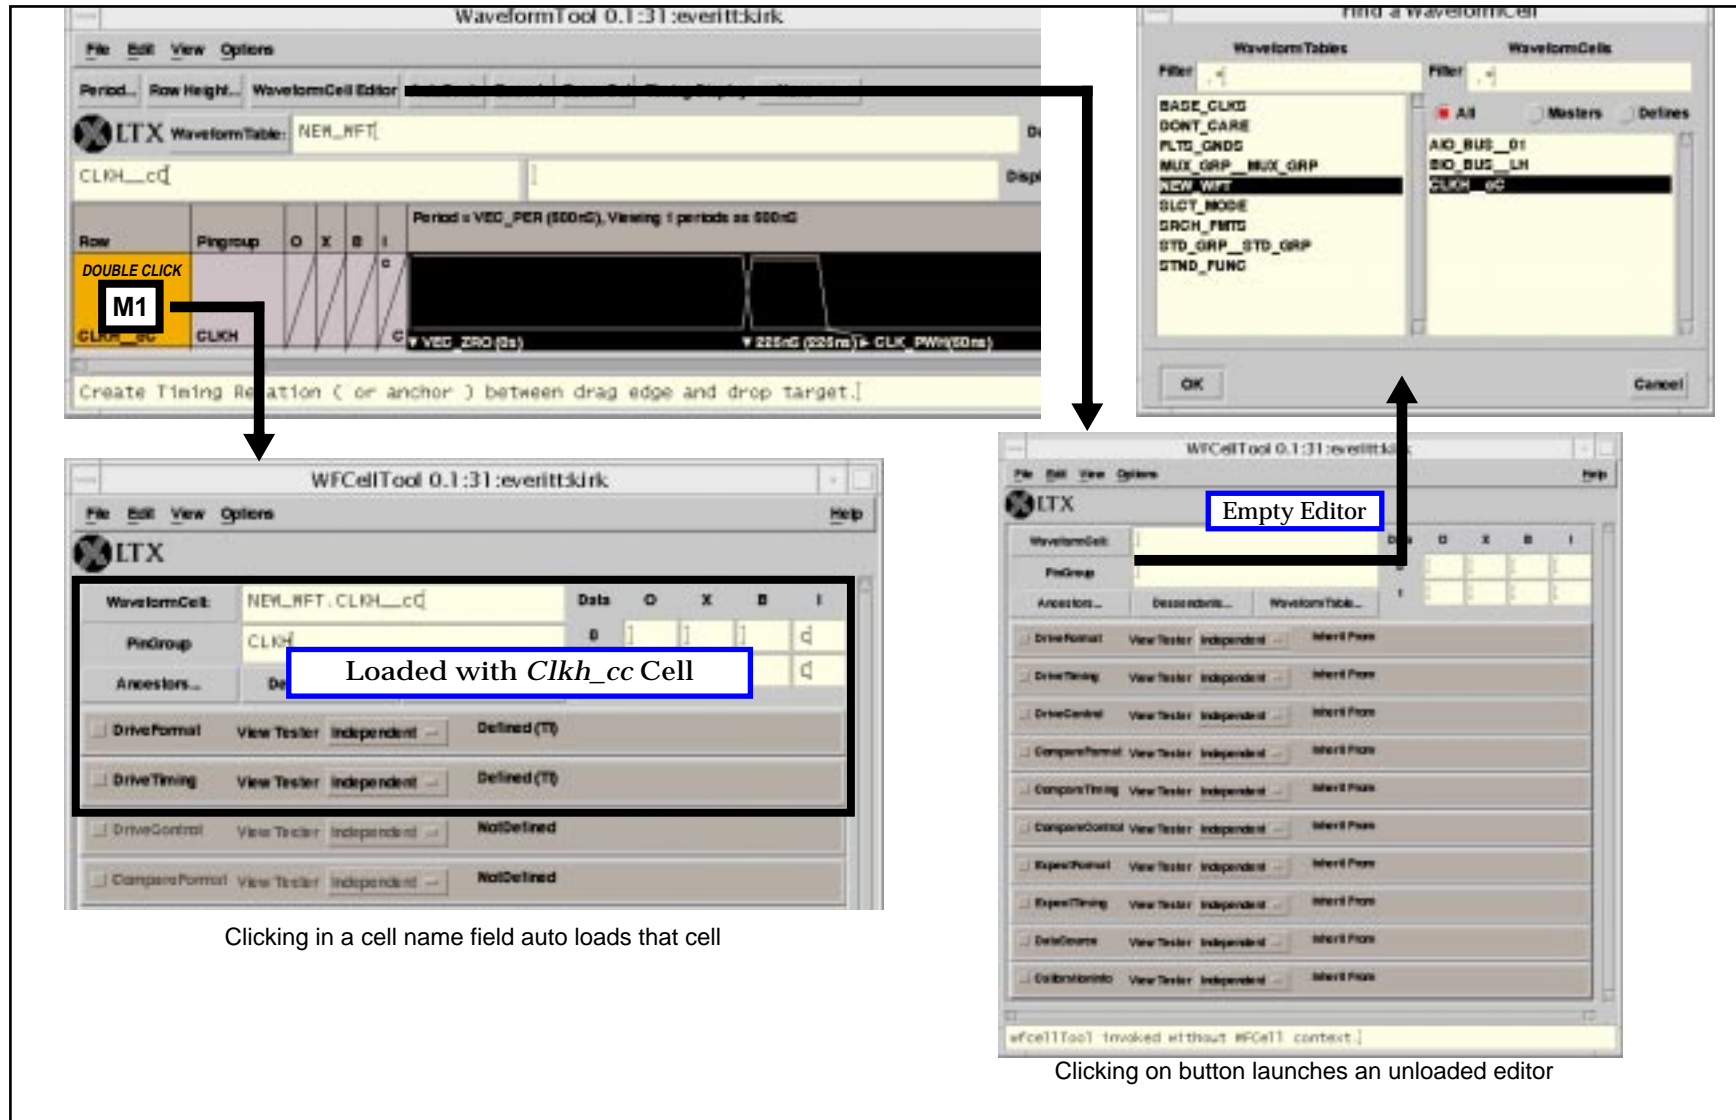

Figure 2.19: Loading a WaveformTable Cell into the WFCel Tool Editor
1. In WFCellTool, click M1 on the WaveformCell: button to open Find a WaveformCell window; see Figure 2.19.